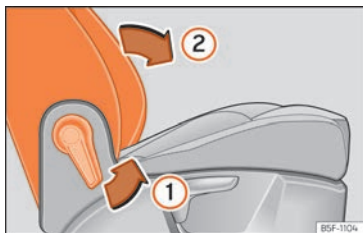

Fig. 132 Front passenger seat: lever to fold down the backrest.
- Pull lever (1) » **Fig. 132** and push the seat backrest (2) until the backrest is horizontal.